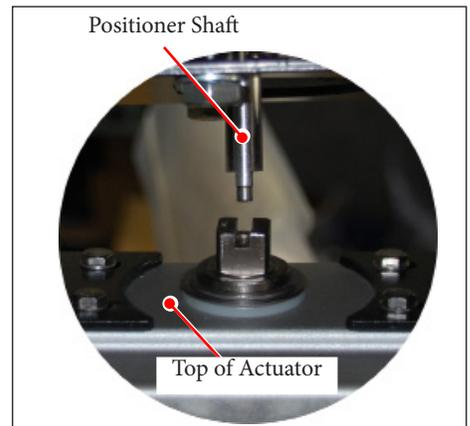

Figure 1.3 - SHAFT ALIGNMENT
3. Verify that the orientation of the flats match up to the positioner shaft flats as shown in Figure 1.3. If necessary, rotate the cam before installing the positioner (see “Cam Adjustment”).